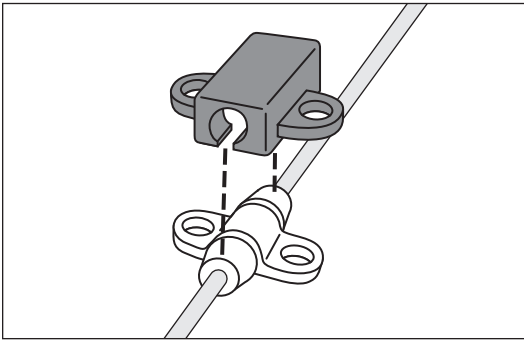

Figure 8
- Snap rigid fastener onto catheter clamp (refer to Figure 8).